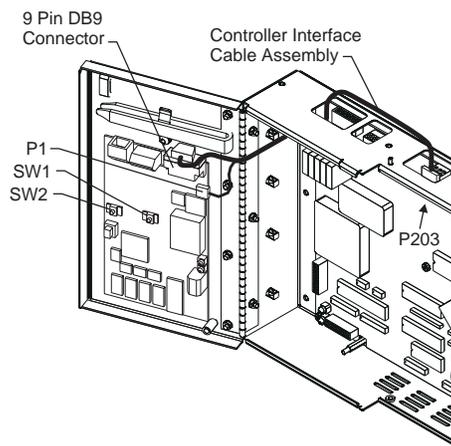

Figure 5-2: Gateway Connection to BSJ Intelligent Controller
The Galaxy Gateway receives power and communications from the intelligent controller. To connect the Galaxy Gateway to the BSJ intelligent controller, follow this procedure (see Figure 5-2):
3. Press reset (SW1 – uP reset; see Figure 5-2) on the Galaxy Gateway card.